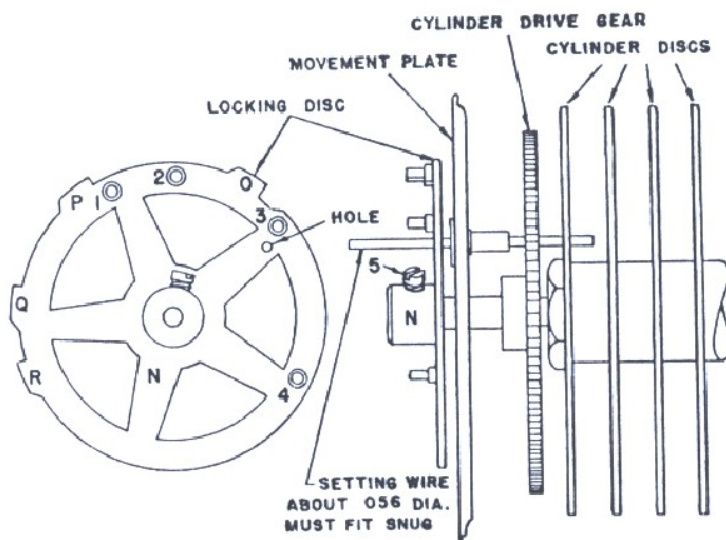

Figure 3
*See Figure 3, Page 7*
There may be a bind in the cylinder drive gear or a rough tooth on one of the cylinder discs. See Figure 3, Page 7.